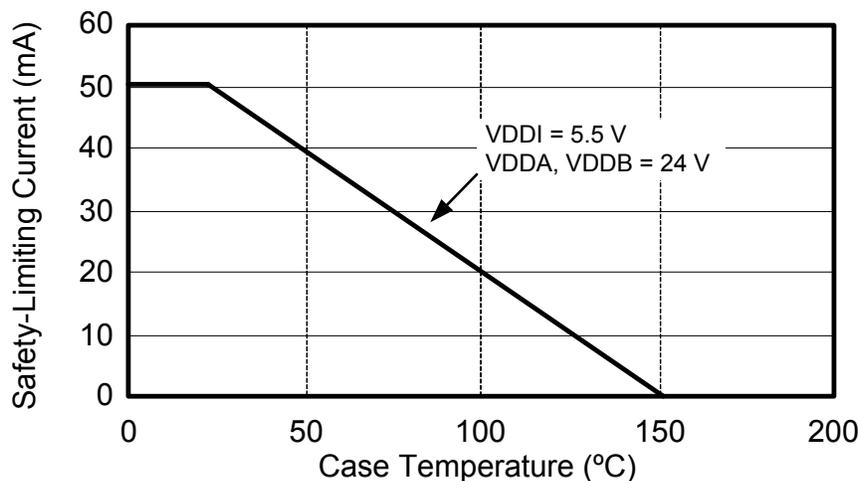

Figure 5. NB SOIC-16, Thermal Derating Curve, Dependence of Safety Limiting Values with Case Temperature per DIN EN 60747-5-2
- Maximum value allowed in the event of a failure. Refer to the thermal derating curve in Figure 5.